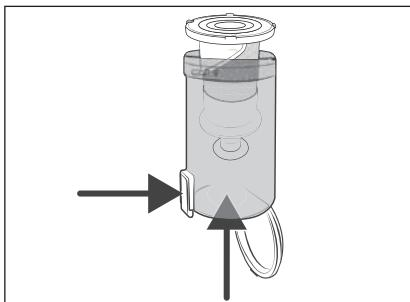

Fig. 23
- 3) Remove the stainless steel filter 6 from the dirt container 7 by pressing the dirt container lid release button 8. Then slide the stainless steel filter 6 out of the dirt container 7 from below (see Fig. 23).